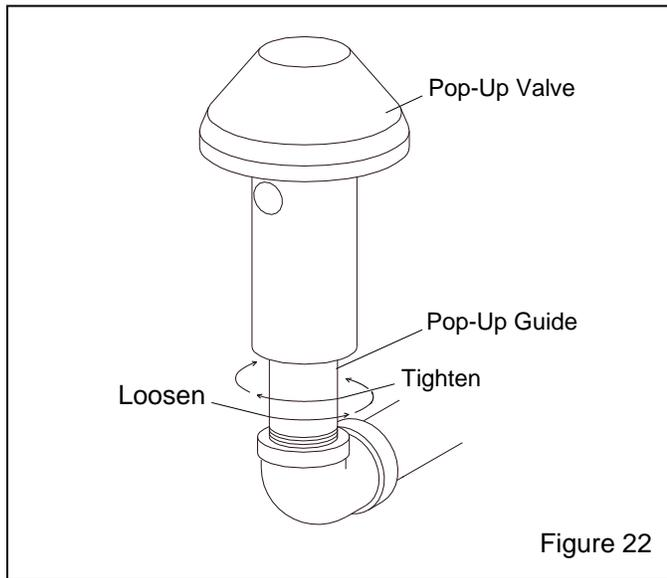

Figure 22
**6.7. Replacing the Pop-Up Valve - Figure 22**